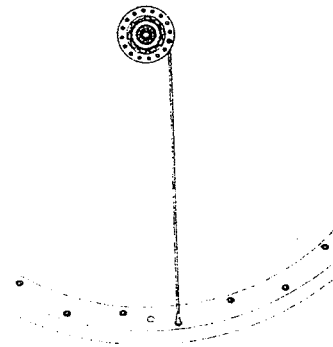

Fig. 3 - The first head up spoke from the 3 or 4-o'clock position is attached to the first spoke hole to the right of the valve hole.
Step 3 - Select a head up static spoke (head above flange) from about the 3 or 4 o'clock position on the upper flange. Attach this spoke to the first spoke hole that is offset up that lies to the right of the valve hole. For a Type B rim this hole will be the first spoke hole to the right of the valve hole and for a Type A rim, it will be the second spoke hole to the right of the valve hole (see figure 3). Thread a spoke nipple onto the end of the spoke only far enough to keep it from falling off - two or three turns will be plenty.